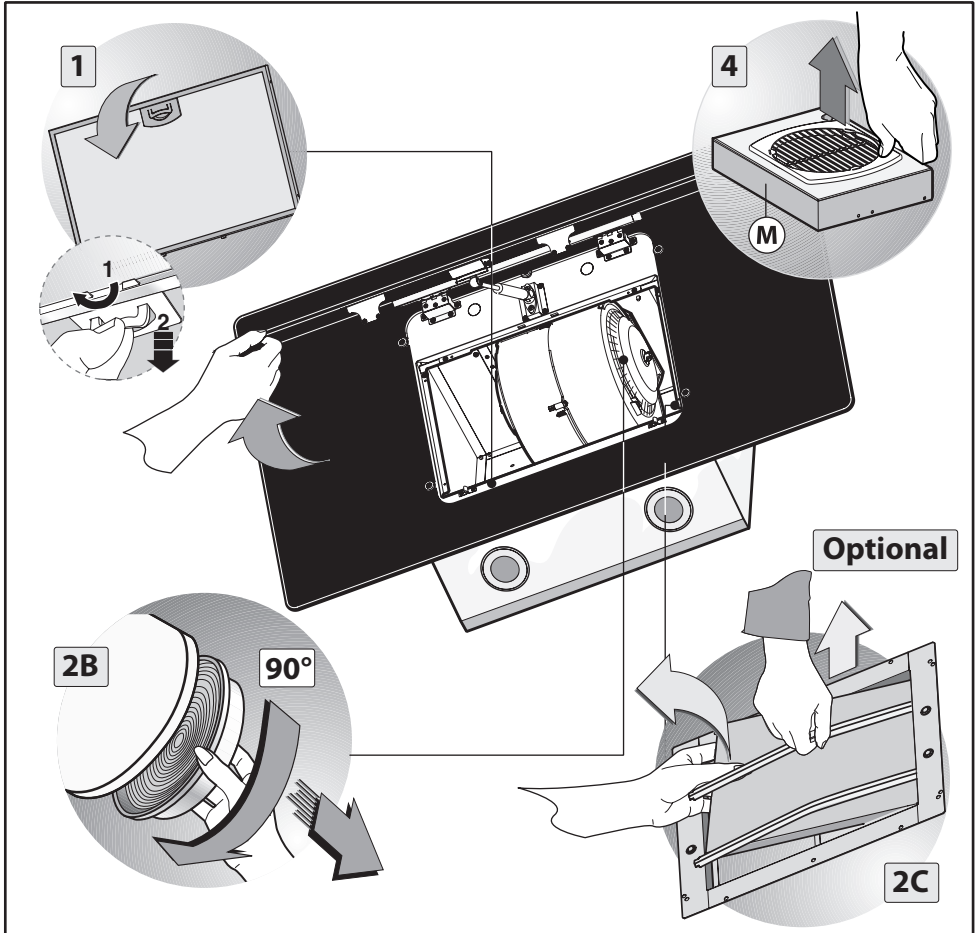

Fig.2
1. Remove the **anti-grease filter** by pulling the handle, as shown in figure 2 - phase 1.
2. If the product is equipped with activated charcoal **filters (B-C)**, remove them as shown in figure 2 - phase 2B or 2C.
3. Unhook the small **cupola M** as shown in figure 2 - phase 4.